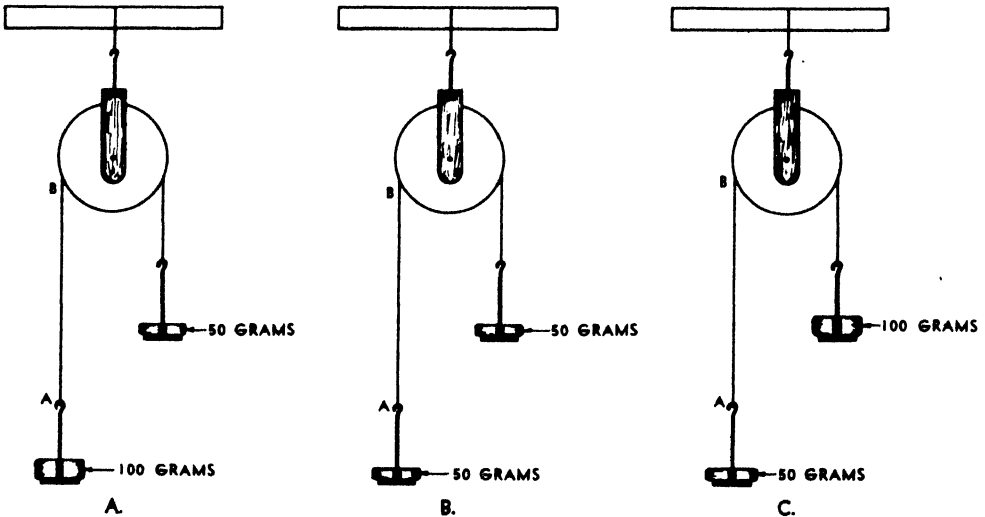

FIG. 207. COINCIDENT FORCES.
in Fig. 207 A, B and C. Considering the coincident forces acting on the string AB, what is the magnitude and direction of the resultant of the forces acting in (A) ? ..... in (B) ? .....